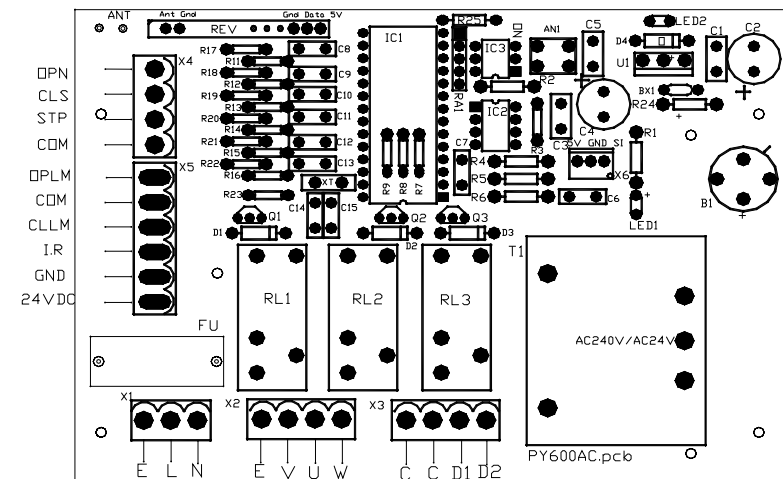

Fig.8
Remove the cover, perform the wiring (See Fig.8 and wiring notes for control board) and replace the cover again.
- Adding extra remote controls (Learn):** Remove the cover, press the learn button 'AN1' (Fig.8), then the 'LED2' (Fig.8) will be on and turn off, then press the remote control button which you want to use, the 'LED2' will turn on about 2 seconds and then turn off again. The learning process is finished. Up to 25 remote controls may be used.